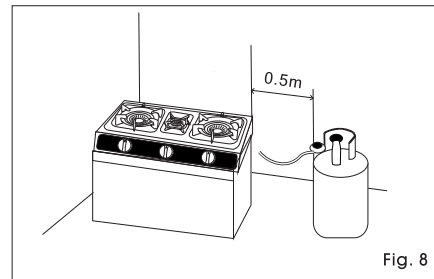

Fig. 8
- The gas cylinder should stand away at least 0.5m from the cooker (Fig. 8).